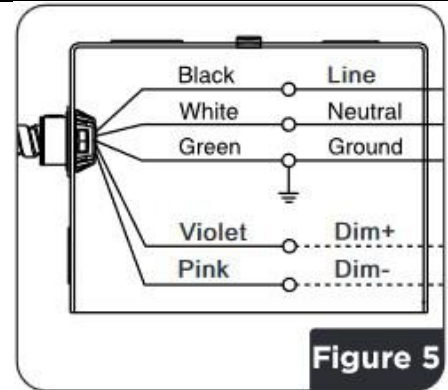

Figure 5
7. Connect the driver whip with five-conductors to the junction box (supplied by others), connecting the black wire to the line, the white wire to the neutral, and the green wire to ground (Figure 5).